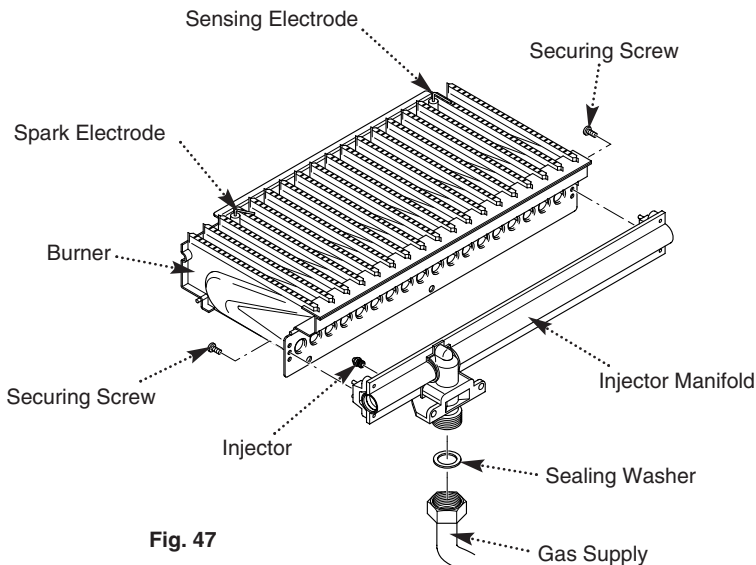

Fig. 47
17. Undo the screws securing the injector manifold to the burner assembly and remove the manifold. Examine the injectors for blockage, cleaning as necessary. Do not use hard tools, such as pins or wire (Fig. 47).